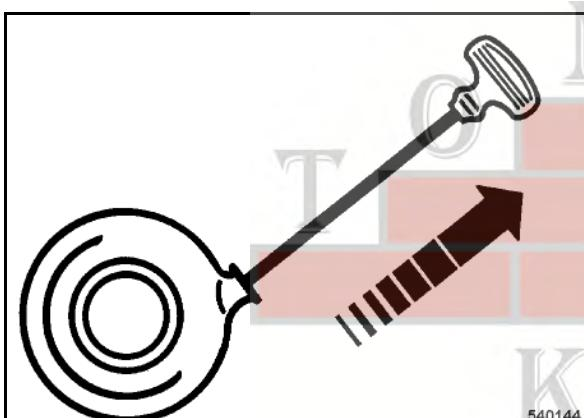

Fig. 15 □
- Pull the starter handle quickly and with power (Fig. 15).